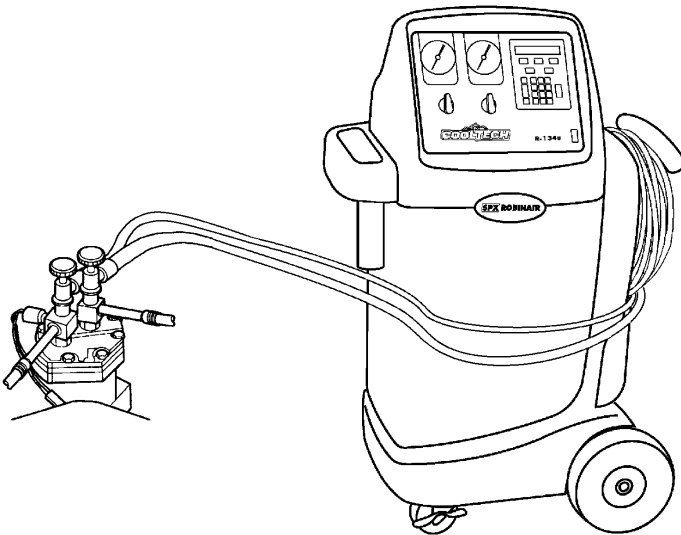

Figure 41 Recovery Station (Shown Connected to a CCI Compressor)
Refer to Figure 41.
4. Connect the recovery station to the system as follows (refer to Figure 41):
1. The recovery station **blue** (suction) and **red** (discharge) hoses should still be connected as they were during the evacuation operation (Figure 41).